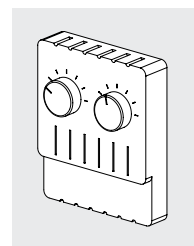

Figure 15
- 8.6 The switchboard can be equipped with a heater. The heater can be automatically adjusted by a built-in thermostat or by an external thermostat. Check the documentation provided with the control cabinet. When both the heater and the cooling fan are present, the external thermostat has dual adjustment. The parameters are preset by Modine. If necessary, adapt the settings to local operating conditions. See Figure 15 as an example.